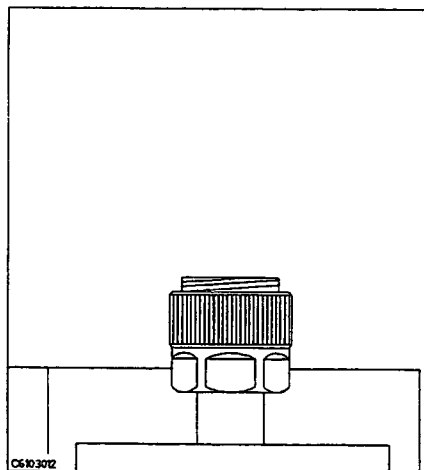

Figure 5-6.
4. Verify that the connector sleeve is extended fully as shown in Figure 5-6.